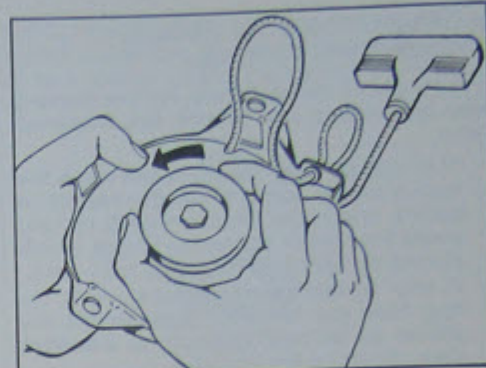

Fig. 12 Rope position for pre-winding spring
- Pull the rope and check that the pulley winds five complete turns. If not, the pulley may be further wound by fitting the rope in the notch in the pulley and then turning the pulley the necessary extra amount by hand, as in Fig. 12. Then ascertain that dog protrudes from its slot by slightly pulling the rope.